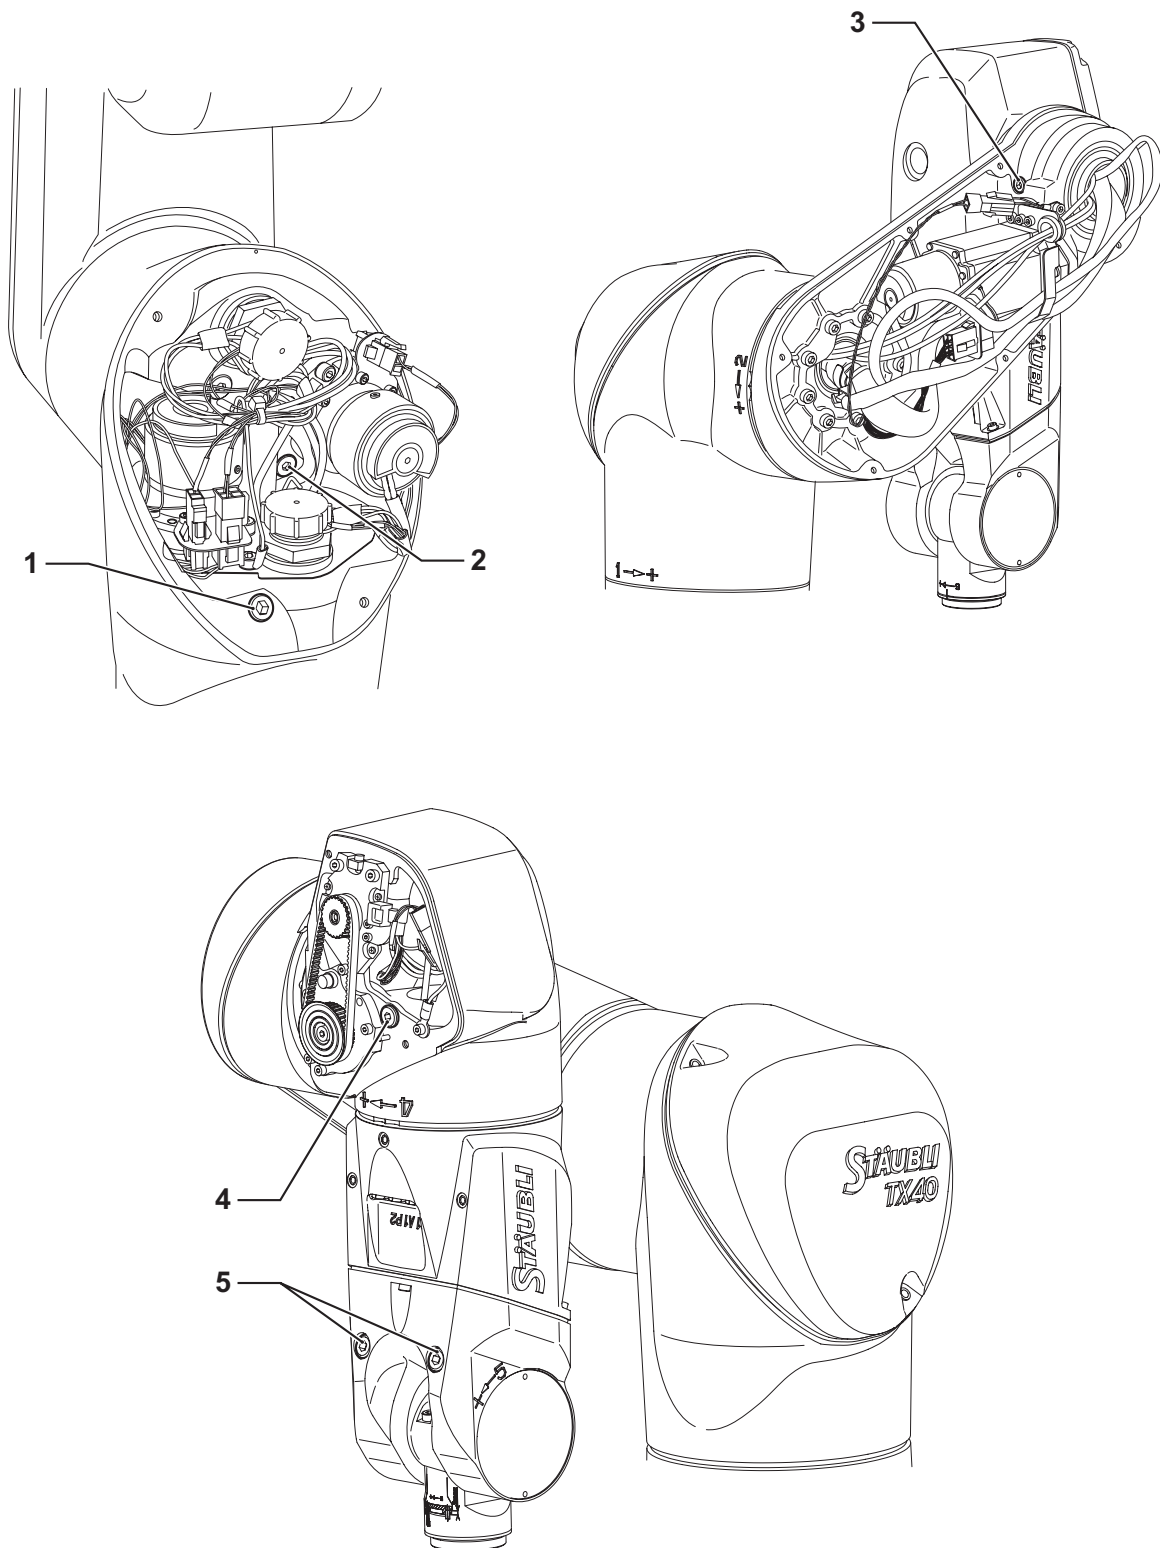

Figure 5.1
5.4.1. ARM IN FLOOR-MOUNTED POSITION (figure 5.1)